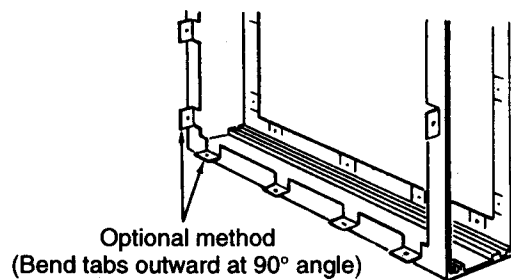

Figure 15
**NOTE:** An optional method of attaching duct work to the cabinet is to modify the cabinet (Figure 15) by bending the tabs outward at a 90° angle and attaching duct work to tabs.